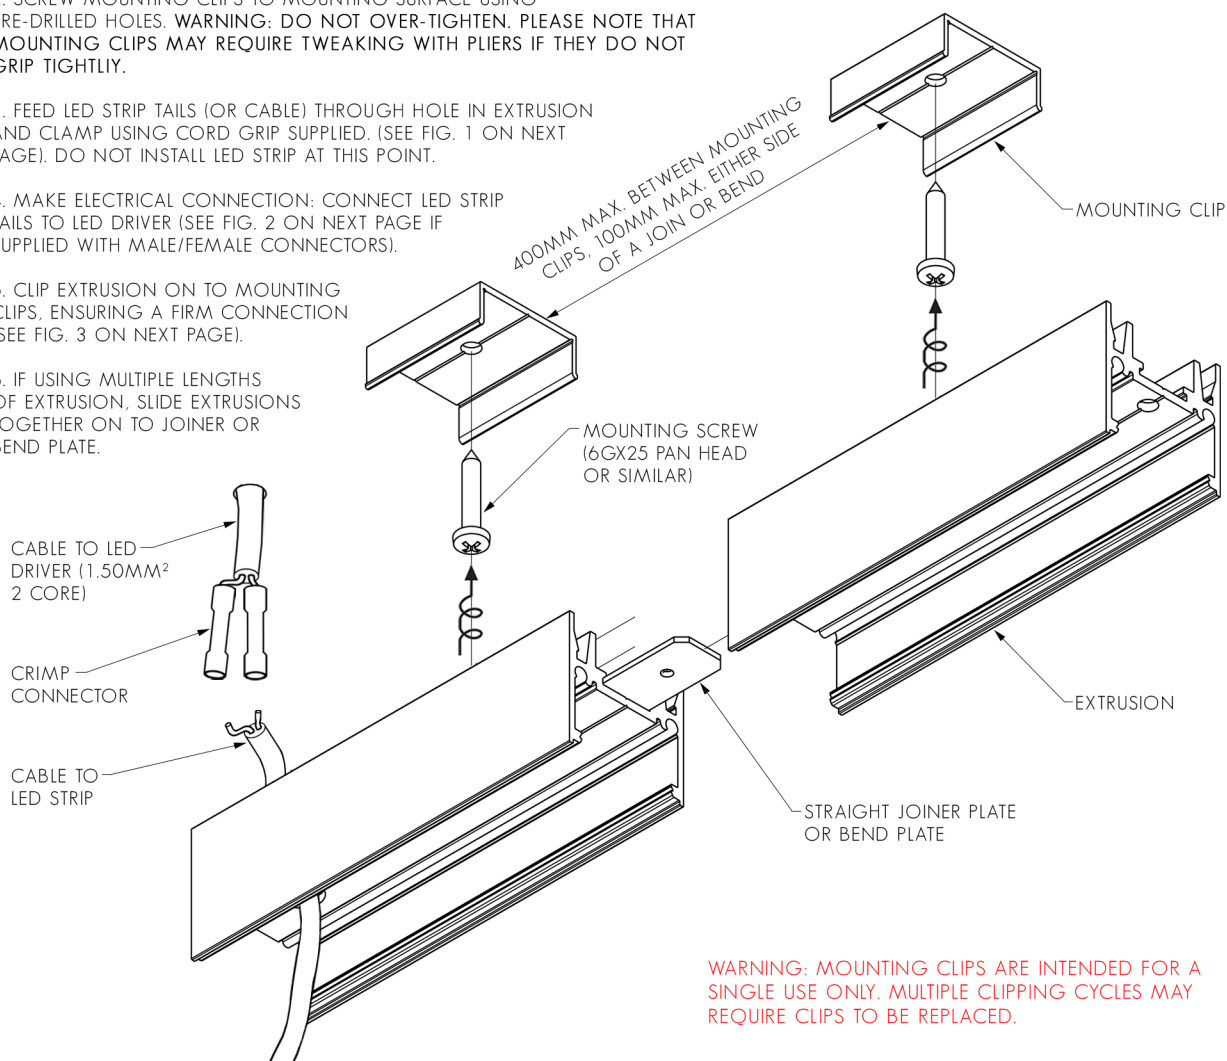

FIG. 1 - FASTEN CABLE USING CORD GRIP
3. FEED LED STRIP TAILS (OR CABLE) THROUGH HOLE IN EXTRUSION AND CLAMP USING CORD GRIP SUPPLIED. (SEE FIG. 1 ON NEXT PAGE). DO NOT INSTALL LED STRIP AT THIS POINT.